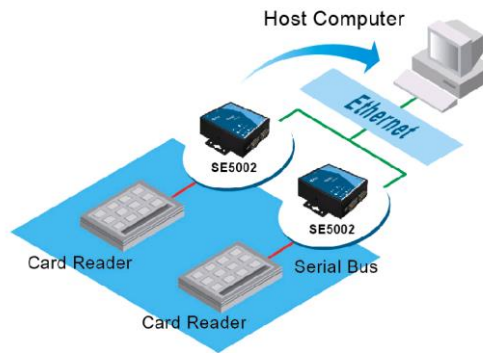

Fig. 2. TCP Client Mode
**TCP Client Mode** : SE5002 can be configured in a TCP client mode on a TCP/IP Network to actively establish a connection with an applications server –the host computer. After the connection is established, data can flow in both directions (Fig 2 TCP Client Mode).